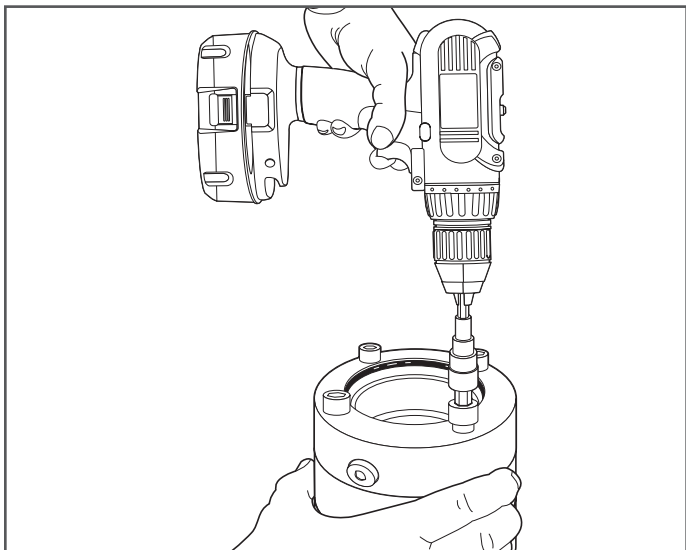

Figure 7-7
8. Loosen cap screws (Figure 7-7).